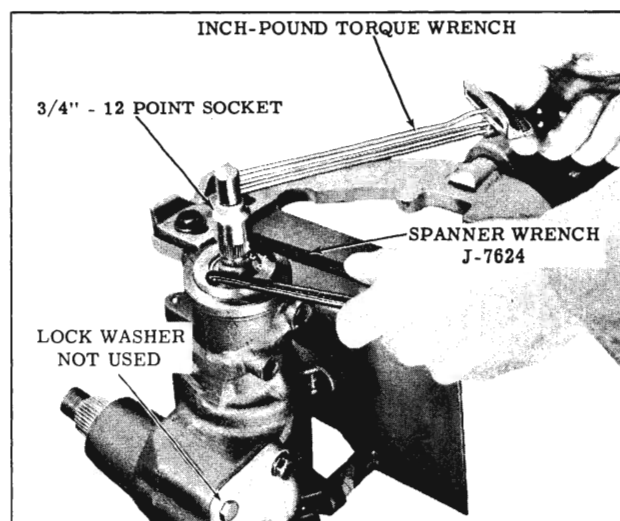

Fig. 4-70 Adjusting Thrust Bearing Preload
- c. Install the 4 side cover bolts and 3 lock washers and tighten 25 to 30 ft. lbs. Refer to Fig. 4-70 for washer location.
- b. Install an inch-pound torque wrench with a 3/4" 12 point socket on the lower shaft splines. (Fig. 4-70)